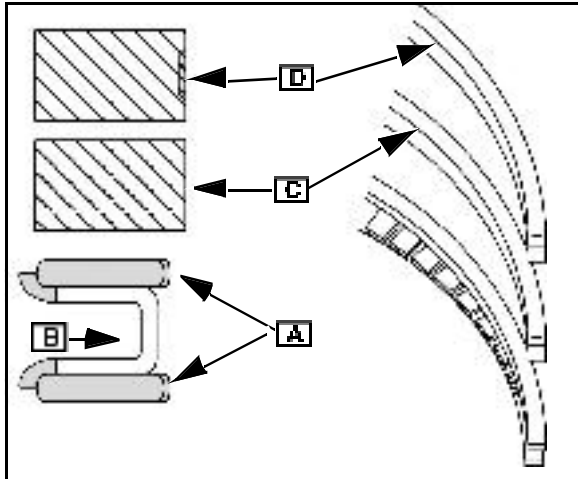

Fig. 15
1. Install the oil control rings (A) and expander (B).
2. Install the center ring (C) with the "T" facing up.
3. Install the top ring ([D] Fig. 15) with the "T" facing up.